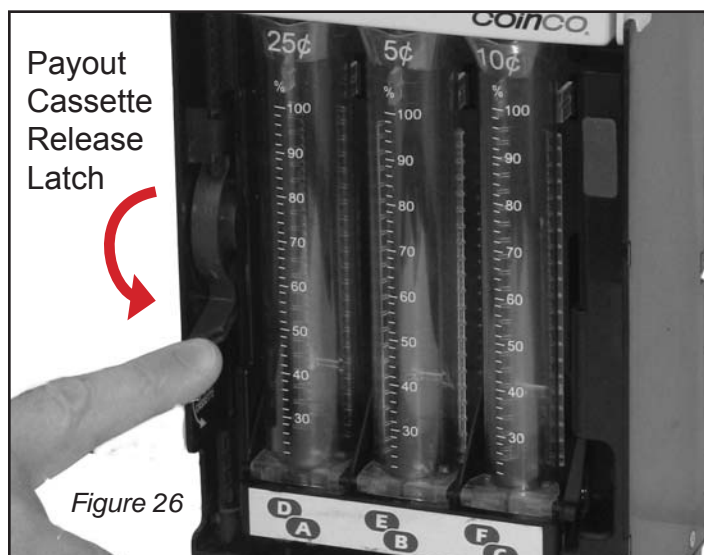

Figure 26
1. Rotate the Payout Cassette Release Latch downward to open the coin payout cassette. Refer to Figure 26.